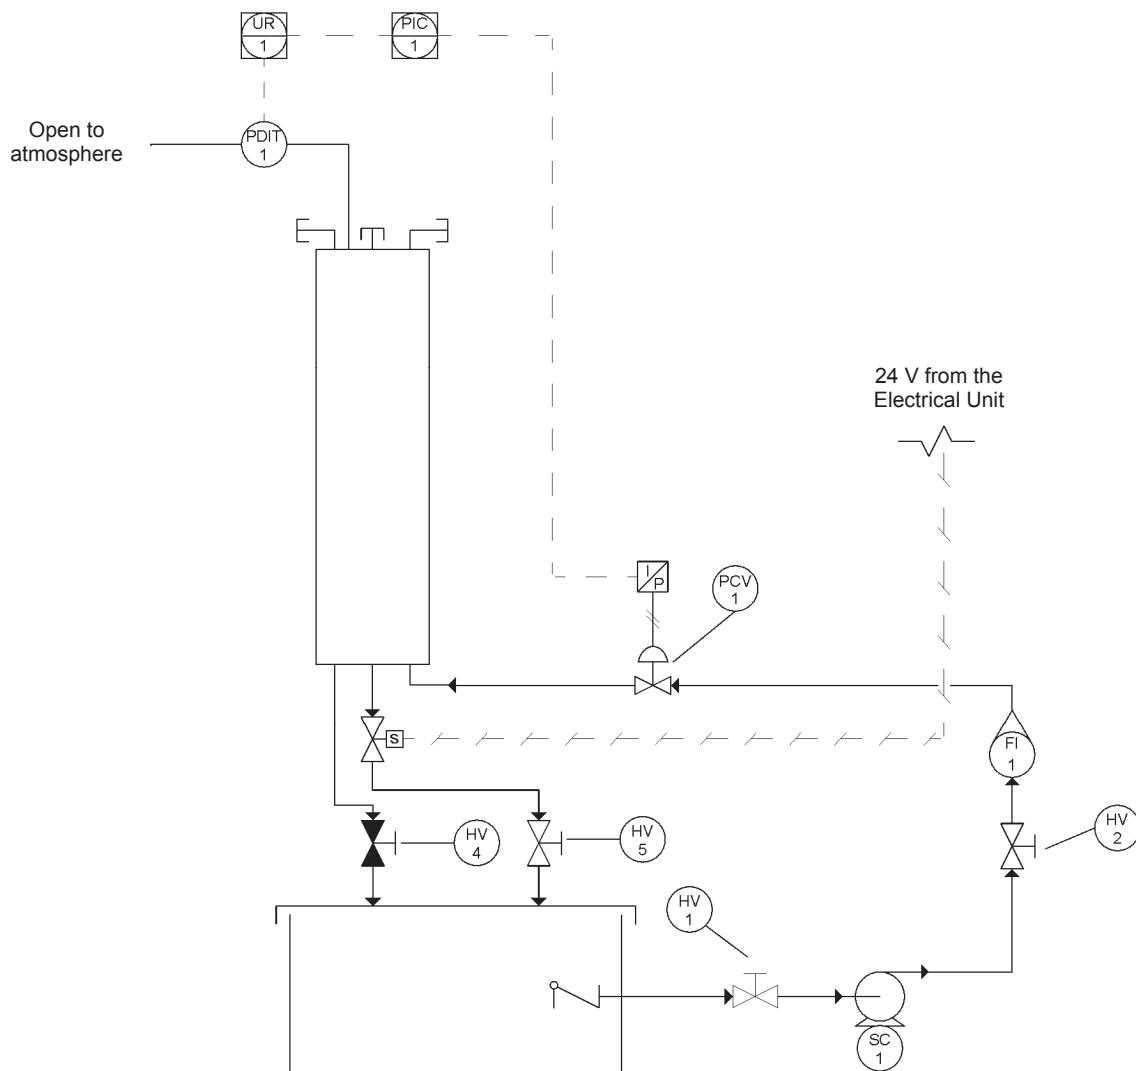
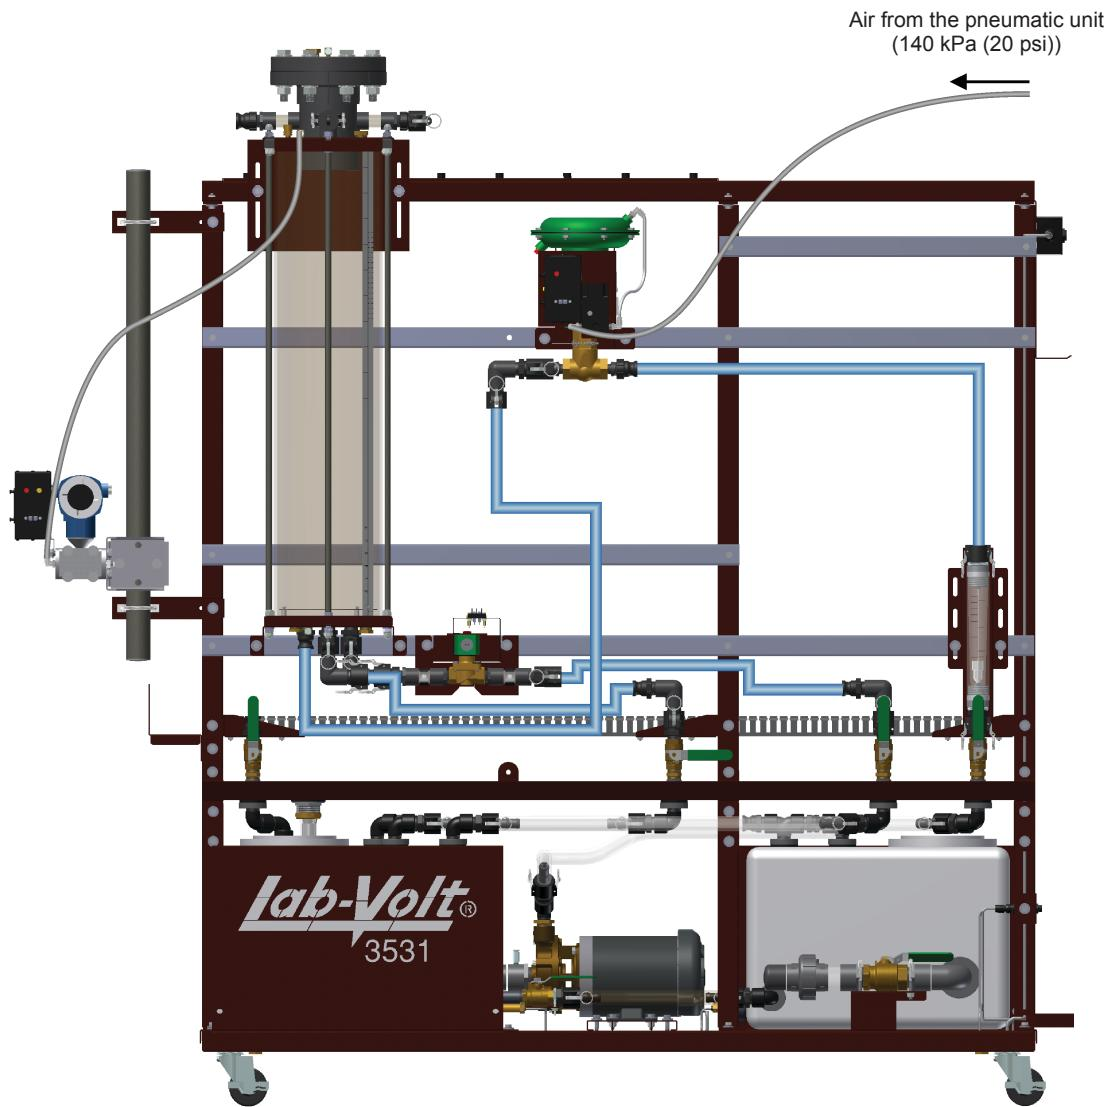

Figure 2-27. P&ID – Pressure control loop.
Figure 2-28. Setup – Pressure control loop.
1. Connect the equipment according to the piping and instrumentation diagram (P&ID) shown in Figure 2-27 and use Figure 2-28 to position the equipment correctly on the frame of the training system.